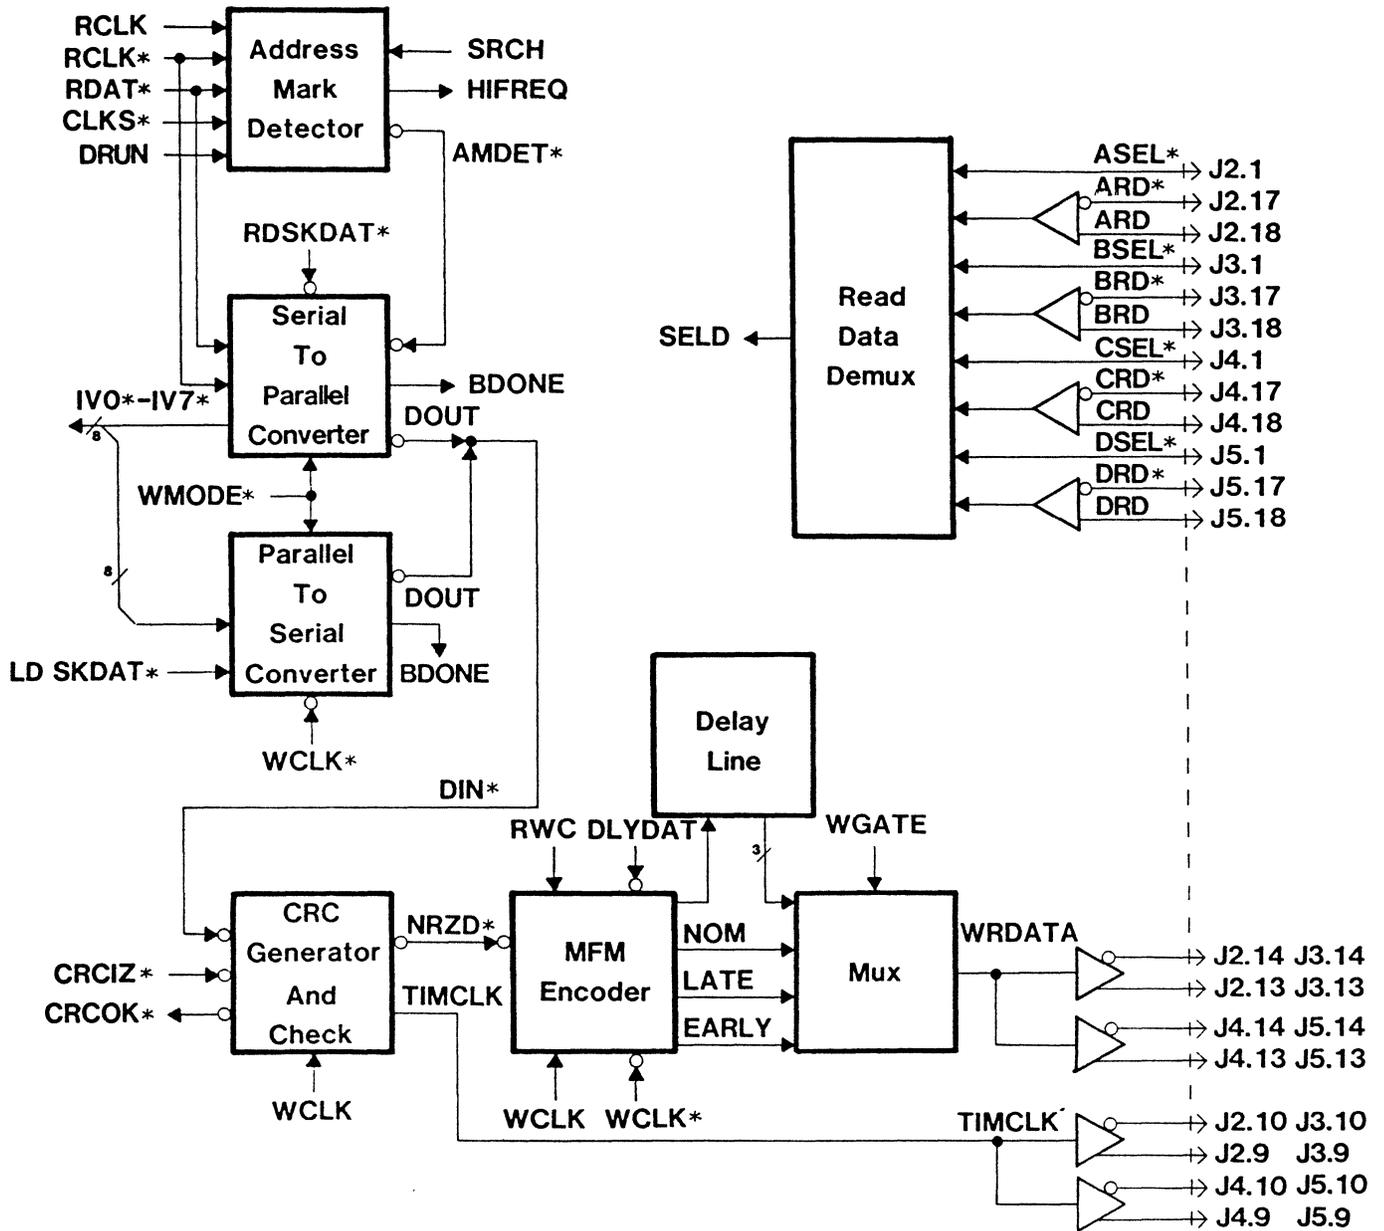

Figure 3-5 – Read and Write Logic Block Diagram
The four remaining lines are supplied to the Disk Read Write Control. Refer to Figure 3-5.
- (2) CBUSY* indicates the controller is busy and is used by the Busy Interrupt Status.
- (3) MBCLR* generates a 796 Bus INIT* and will initialize the Bus if Option Jumper W47 is installed.
- (4) CRCIZ* initializes the CRC Generation and Check. Refer to Figure 3-5.
- (5) IBLA* generates an Address Mark.
- (6) SRCH* initiates a search for an Address Mark in the read data. Refer to Figure 3-5.
- (7) 16 BIT indicates a 16 bit data transfer.
3.40 Refer to Figure 3-5 for the description which follows. The Read and Write Logic perform the function of MFM Generation and Decode.